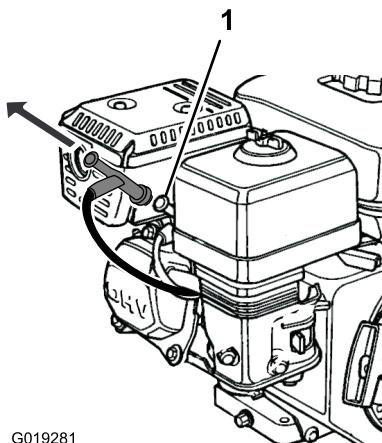

Figure 13
4. Disconnect the spark plug (Figure 13).
- C. Disconnect the spark plug (Figure 13).